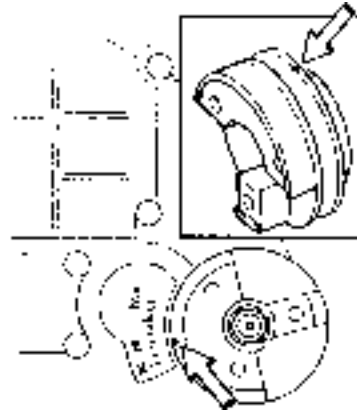

Fig. 90. Marking the pulley and engine block
5. Continue turning the crankshaft slowly clockwise until the fuel stops flowing out from the pressure valve holder. Check the position of the crankshaft to the marking on the pulley and engine block at this point. See Fig. 90.